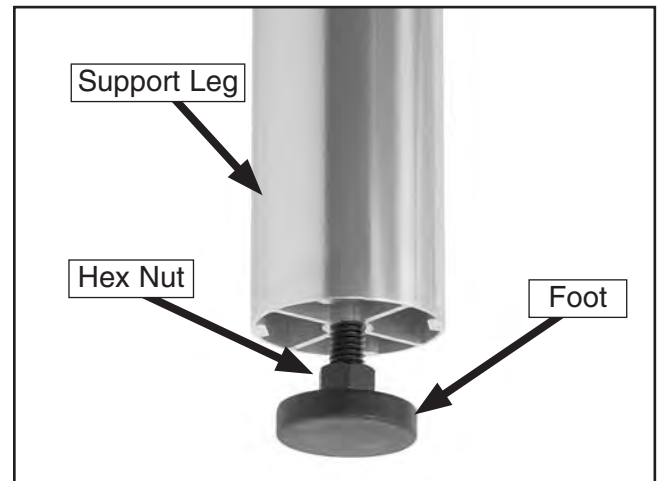

Figure 19. Foot installed on support leg.
8. Install each foot with a $\frac{3}{8}$ -16 hex nut onto the bottom of a support leg, as shown in **Figure 19**.